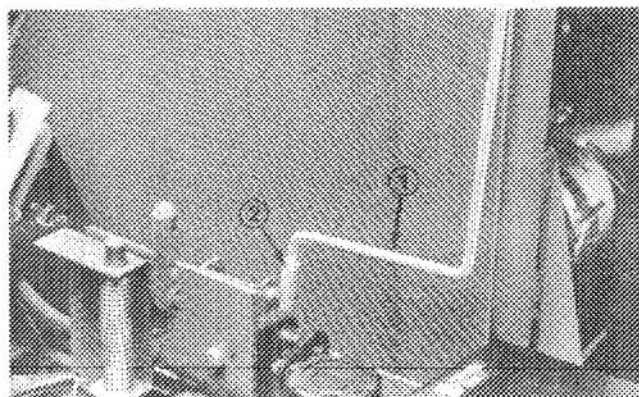

Figure 10
11. Install seat support rod to seat support bracket with jam nut (Fig. 10).
9. Install seat support rod to seat support bracket with jam nut (Fig. 10).